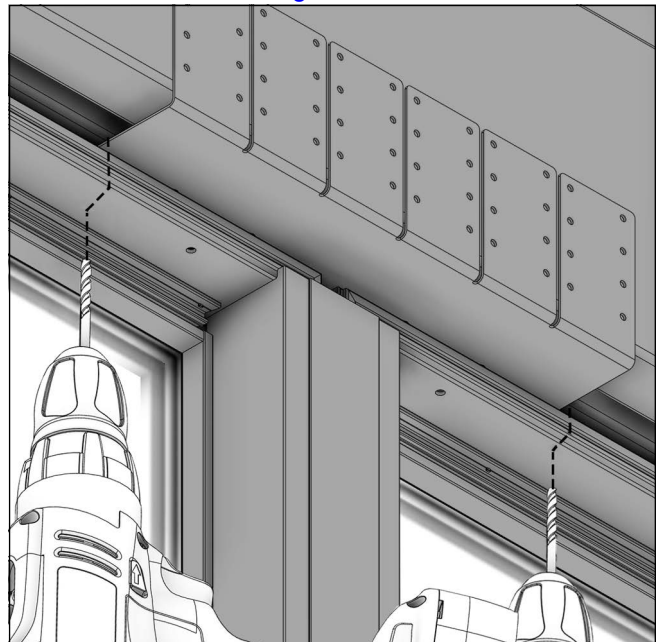

Figure 24 Direct Glaze
5. For **Direct Glaze** product, measure 1/2" off the interior face of the frame. All holes regardless of unit type will align with the existing through jamb holes. Drill the marked locations, drill through the frame with a 3/16" drill bit. Once all holes are drilled, fasten the frame to the RO with the provided #8 x 3" screws using a T20 star bit. Additional shimming may be required. DO NOT OVERTIGHTEN. See Figure 24